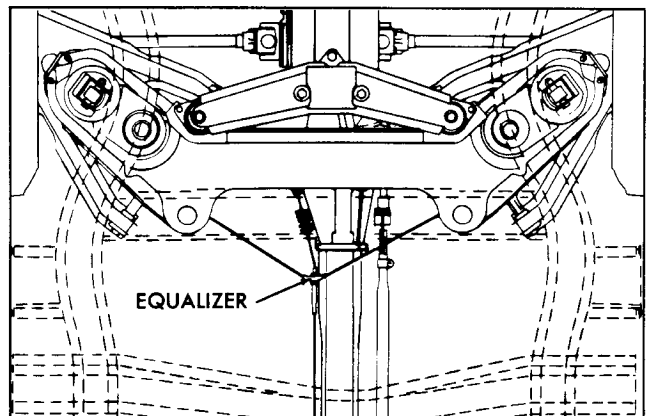

Fig. 2-6 Parking Brake Cable Equalizer
3. Unhook parking brake cable at equalizer (Fig. 2-6).